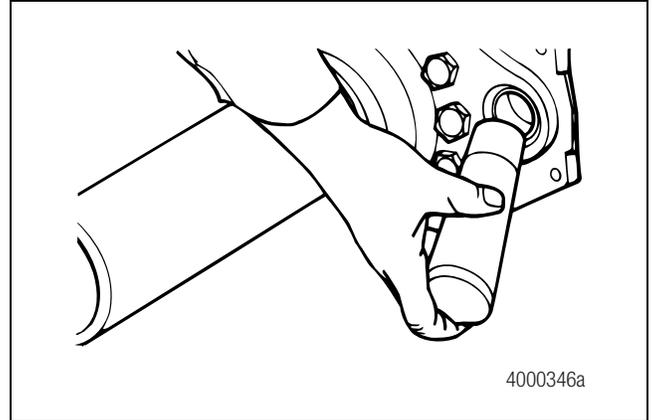

Figure 4.11
2. If removed, use a seal driver to install the new camshaft seals and new bushings into the spider and camshaft bracket. Figure 4.11.